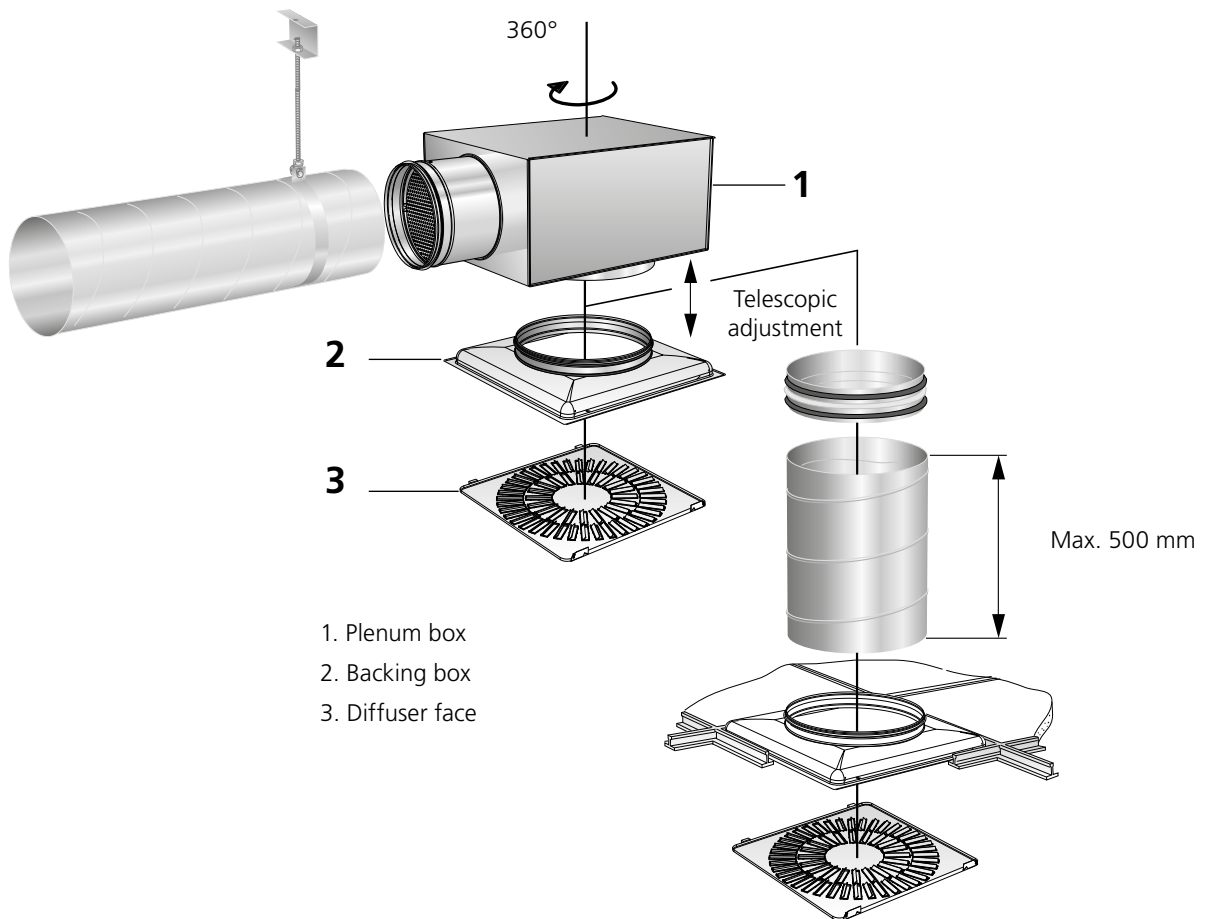

Figure 2. Installation alternatives.
- Extension with 500 mm circular duct between the plenum box and the air diffuser can be made, see figure 2.